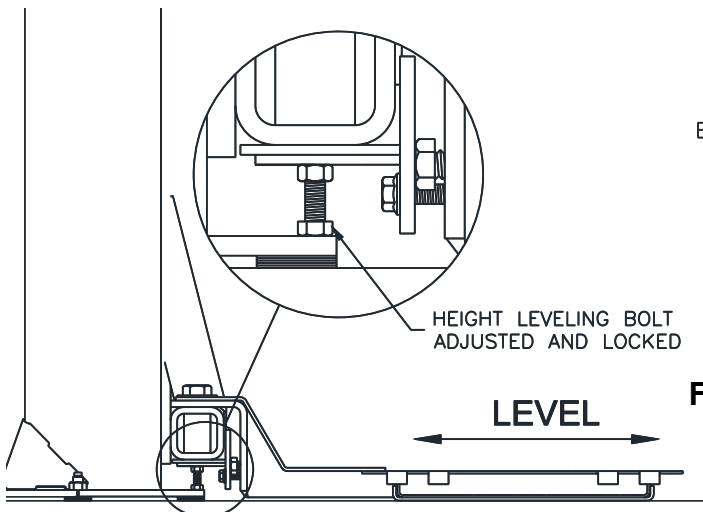

Fig. 9 SETTING THE HEIGHT LEVELING SCREWS
10. Raise and lower the lift just a few inches at a time to find the lowest position of the lift without causing the Pads to become unlevel. We will not want the lift to lower beyond this point, so unthread the Height Leveling Bolt at each side of the lift until it touches the Column Base Plate, **Fig. 9**. Lock the bolts in place with the Jam Nut.